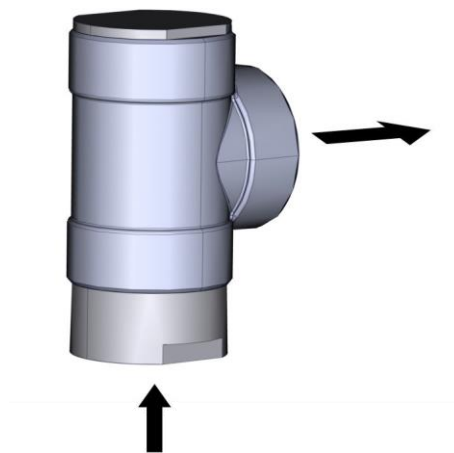

Fig. 55: Direction of flow
3. ➤ Mount the check valve (possibly with adapter) with due consideration of the direction of flow (Fig. 55/ arrows).